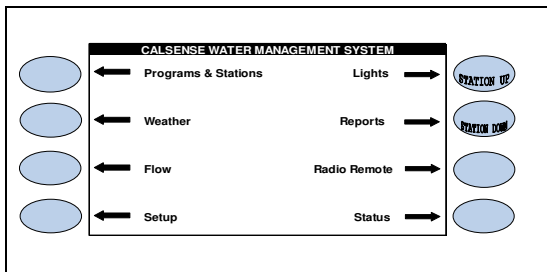

Figure 13
1. Press the **REPORTS** Menu key (Figure 13).